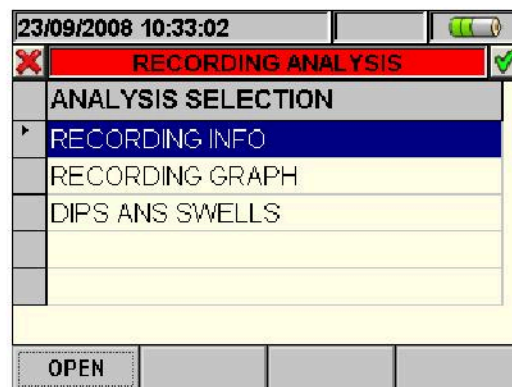

Fig. 116: Recording analysis (Reg-type data)
2. Press the **ESC** key (or the smart icon ) to exit the function and go back to the “Recording analysis” page (Fig. 116).
- The **ESC** key (or smart icon ) to exit the function and go back to the "Recording analysis" page (Fig. 116).